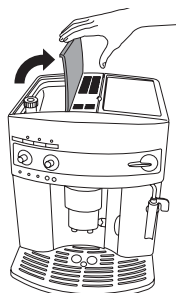

Figure 2
1. Open the coffee bean container lid and fill container with coffee beans and close the lid. (Figure 2)